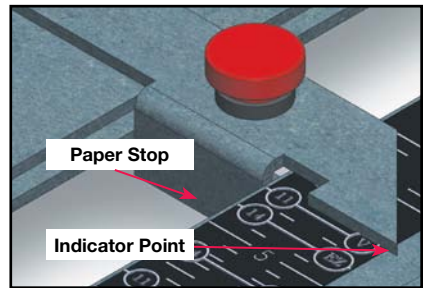

Figure 13: Paper Stop Alignment
3. Line up the tips on both sides of the paper stop with the appropriate line on the scale so that the appropriate white line on the scale is just visible (see Figure 13).